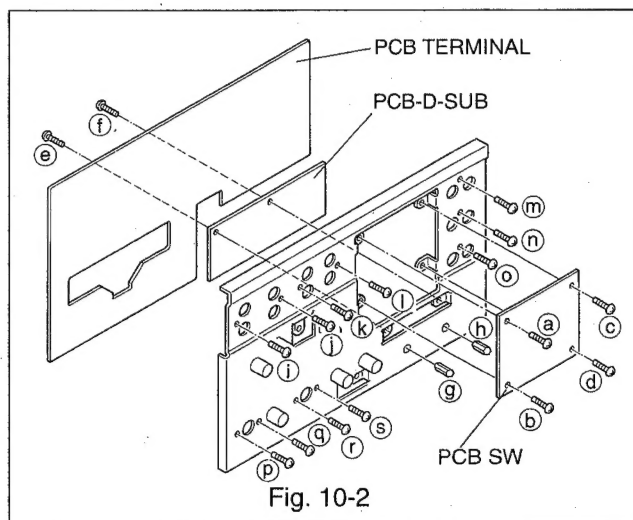

Fig. 10-2
- E. Remove the four screws (a~d) of the PCB SW. (Refer to Fig. 10-2)
- F. Remove the two screws (g, h) of D-SUB connector and the two screws (e, f) of PCB D-SUB. (Refer to Fig. 10-2)
- G. Remove the eleven screws (i~s) of the PCB TERMINAL. (Refer to Fig. 10-2)